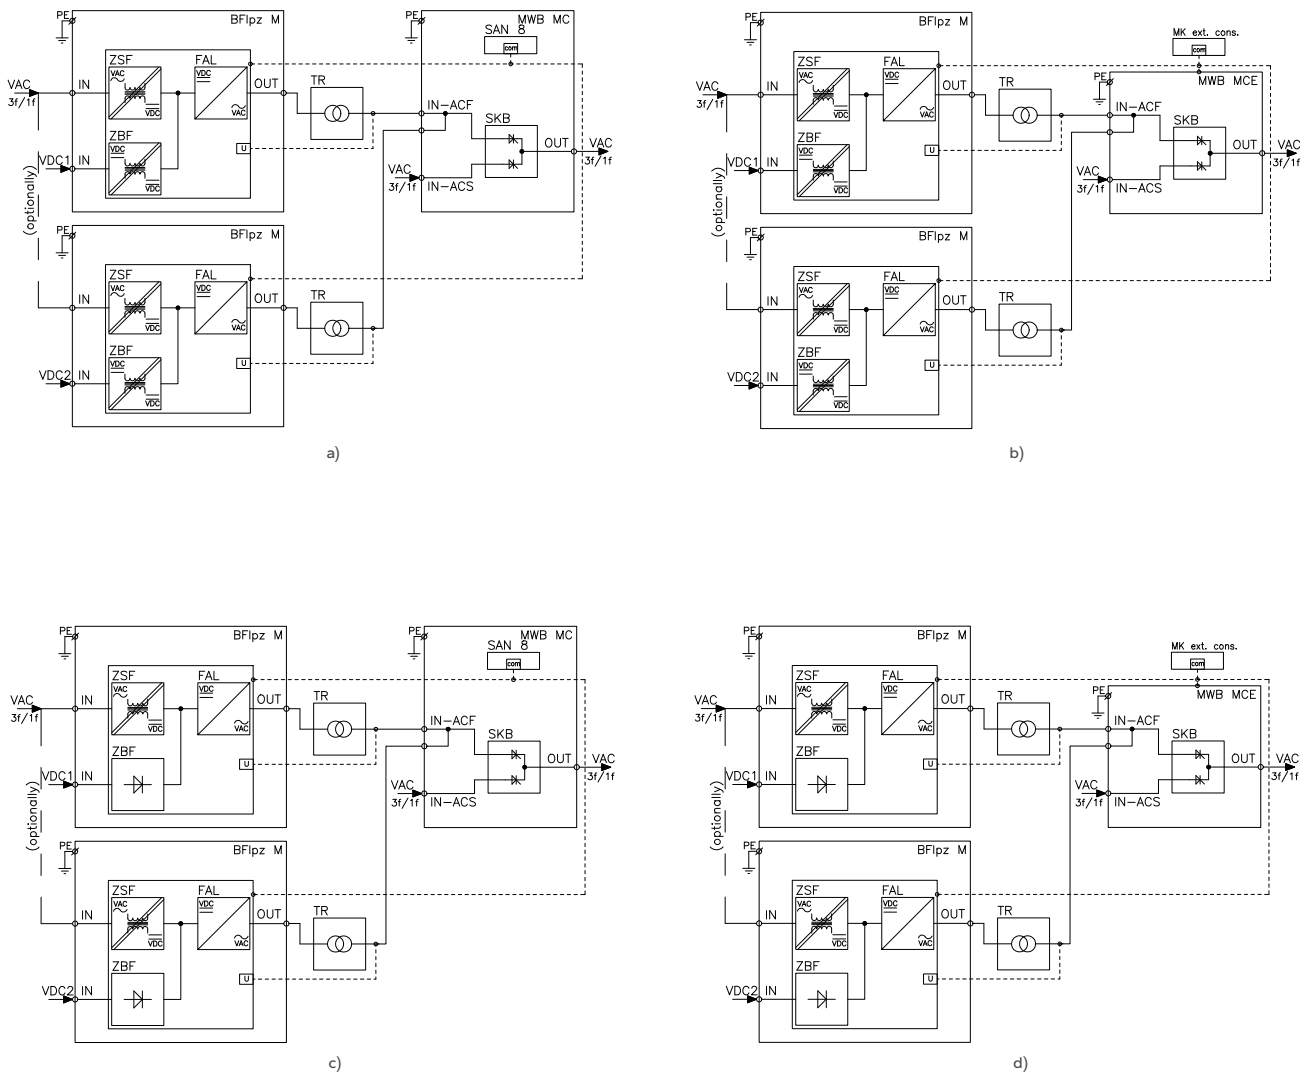
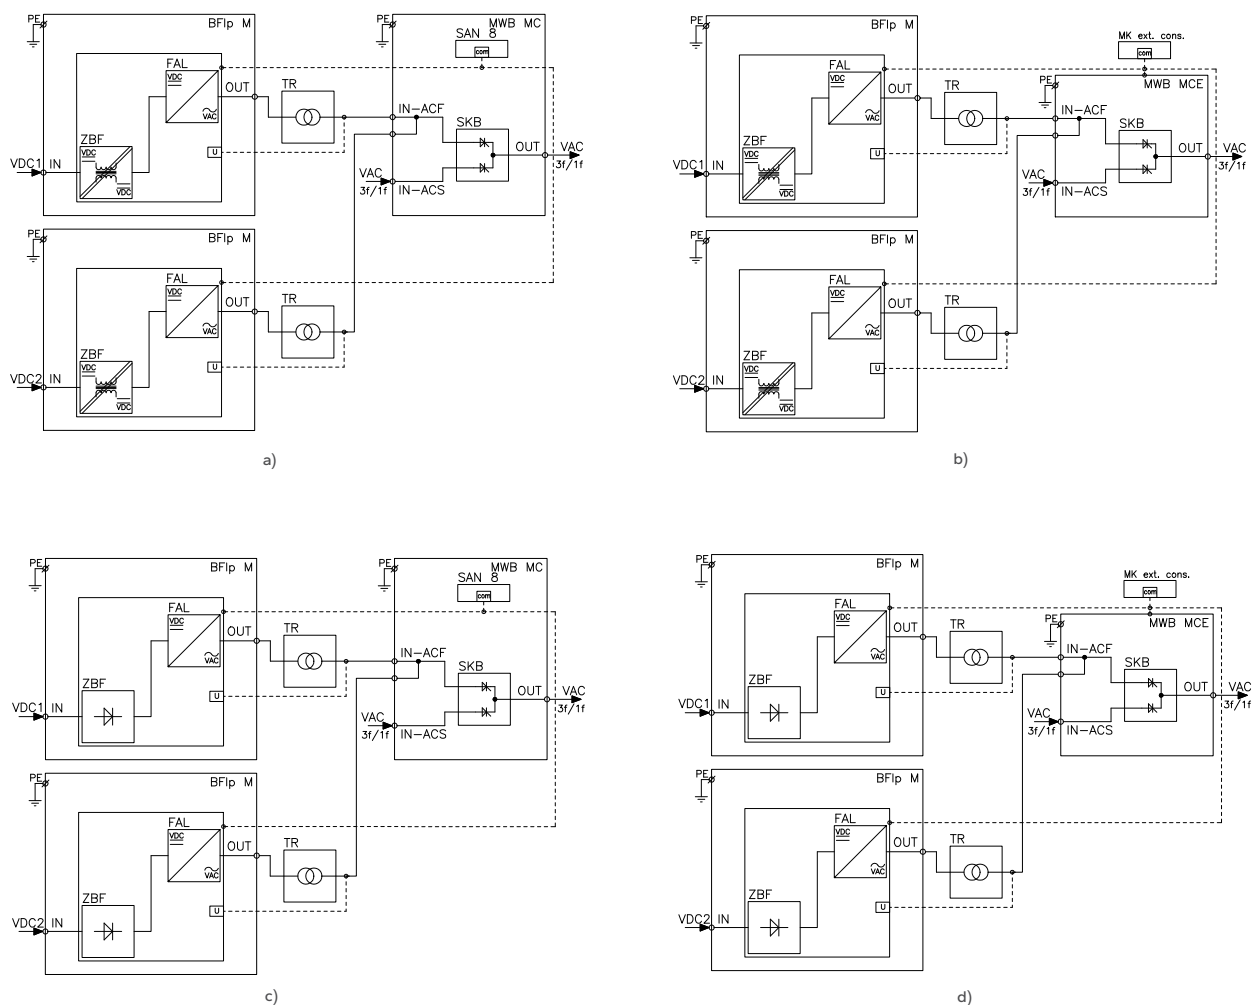

Fig. 55. Block diagram of the inverter modules for parallel operation with the BFlpz power supply unit and the MWB module. Possible configurations:
Fig. 56. Block diagram of the BFIp type inverter modules for parallel operation and the MWB module. Possible configurations:
The BFIpz inverter module is supplied by voltage of the basic AC network and DC battery voltage (Fig. 55), while the BFIp inverter module is supplied only by DC voltage (Fig. 56). The MWB module is supplied by the reserve AC network, and has two inputs to which output voltages (adapted to the client's requirements) of inverters are applied by transformers. The transformers provide isolation from supply voltages and constitute an ideal protection against penetration of the constant component to the loads in the case of a failure of the inverter. The MWB type inverters parallel operation integrating module is equipped with the SAN 8 system that controls the operating parameters of the inverters. The MWB module with a built-in console belong to the MC modules family (Fig. 56 a, c), while the modules with an external MK console are a part of the MCE modules family (Fig. 56 b, d). The BFIpz / BFIp modules without a controller belong to the M modules family.
(Fig. 55 a, b, and Fig. 56 a, b);
2. Cut-off diode (Fig. 55 c, d, and Fig. 56 c, d).
The system including a diode on the battery power supply circuit instead of a battery converter (Fig. 55 c, d, and Fig. 56 c, d) is characterised by a greater reliability due to a lack of processing on the DC circuit.
SERIES TYPE: 1-PHASE INVERTER MODULES 1 ÷ 10kVA FOR PARALLEL OPERATION IN COOPERATION WITH 1-PHASE TRANSFORMER 230 V / 230 V 50 Hz – AS PER FIG. 55 A, B, AND FIG. 56 A, B
SERIES TYPE: 1-PHASE INVERTER MODULES 1 ÷ 10kVA FOR PARALLEL OPERATION IN COOPERATION WITH 1-PHASE TRANSFORMER 115 V / 230 V 50 Hz – AS PER FIG. 55 C, D, AND FIG. 56 C, D
SERIES TYPE: 3-PHASE INVERTER MODULES 1 ÷ 10kVA FOR PARALLEL OPERATION IN COOPERATION WITH 3-PHASE TRANSFORMER 3×240 V / 3×400 V 50 Hz – AS PER FIG. 55 A, B, AND FIG. 56 A, B
SERIES TYPE: 3-PHASE INVERTER MODULES 1 ÷ 10kVA FOR PARALLEL OPERATION IN COOPERATION WITH 3-PHASE TRANSFORMER 3×110 V / 3×400 V 50 Hz – AS PER FIG. 55 C, D, AND FIG. 56 C, D